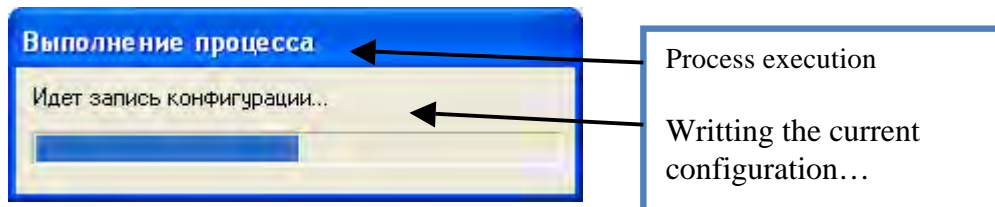

Figure 2.5
"Write" button (5) allows writing a configuration on the device (Figure 2.5).